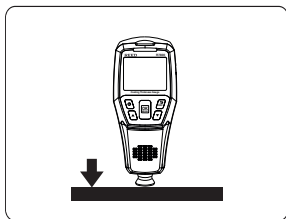

Figure 1
1. When Figure 1 appears on screen, place the instrument vertically on the uncoated substrate.